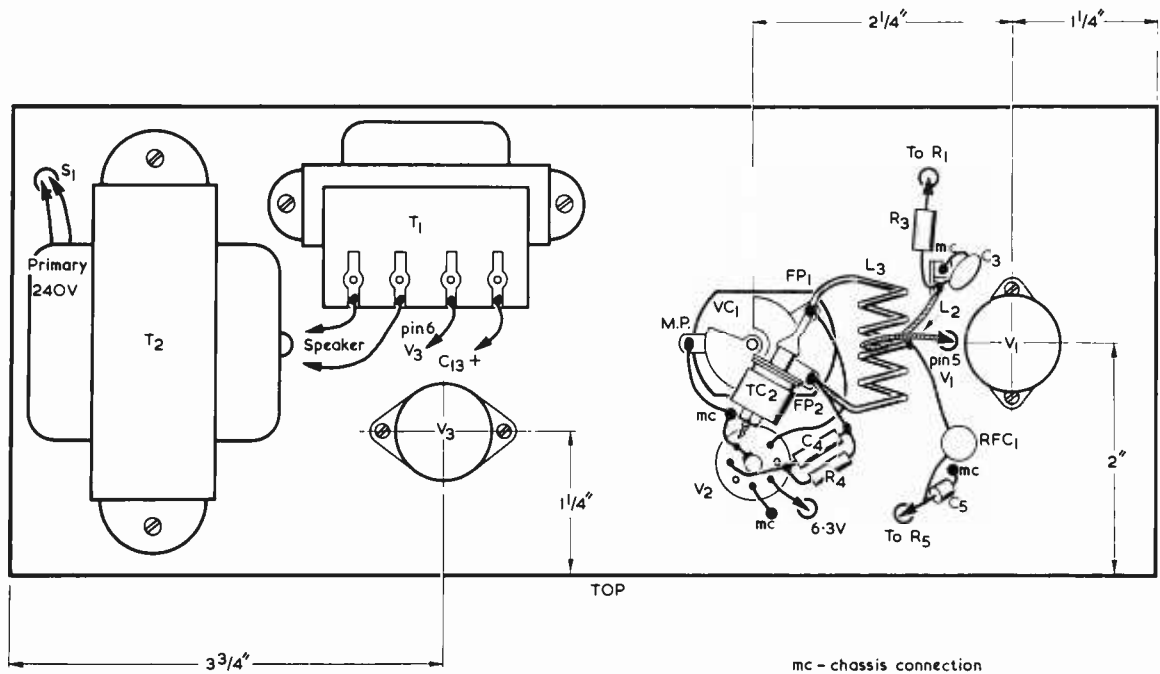

Fig. 2. Wiring and components on the rear of the flanged chassis member
- 1 2-way tagstrip (see Fig. 2)
Coupling coil L2 is a single turn of insulated wire, or of 20 s.w.g. bare tinned copper wire covered with 1mm. sleeving. It has the same diameter as L3, and its ends are shaped to reach tag 5 of V1, (via a hole in the 'chassis') and C3. It is placed centrally in the spaced turns of L3. See the wiring diagram of Fig. 2.
Mount the components shown in Figs. 2 and 3, following these diagrams for correct orientation of the valveholders and of VC1. Two solder tags are fitted at each valveholder for chassis connections. Also, a solder tag is fitted under the upper securing nut for T1, the tag being on the opposite side of the 'chassis' to the transformer. Drill the holes in the 'chassis' that are required for the passage of wires. All these holes should be fitted with grommets. Two holes are required near T2, one of these being for the connections to its primary. A second, larger, hole takes its secondary connections, together with connections to T1. The speaker transformer supplied may have tags positioned differently to those shown in Fig. 2, and this point should be checked before
Carry out the wiring around V2 shown in Fig. 2. TC2 is soldered directly to VC1, between FP1 and FP2. Use 20 s.w.g. or stouter wire in the V2 stage, with all leads, except heater wiring but including those of C4 and R4, as short as possible. Shape the ends of L2 so that one end reaches the insulated tag supporting C3 and R3. The other end passes through a hole immediately adjacent to tag 5 of V1 valveholder.
The 6.3 volt secondary leads from T2 pass through the hole in the 'chassis', as shown, and connect to tag 5 of V3 valveholder and to a chassis tag of the tagstrip. The h.t. secondary leads connect to the same chassis tag and to the negative side of the rectifier. The primary leads of T1 pass through the same hole and connect to tag 6 of V3 and, at the tagstrip, to the positive lead-out of C13. The secondary of T2 connects to a speaker socket strip which is mounted on the adjacent 7 by 4in. side plate. This connection will be made later, when the side plate is secured in position. Note that one side of T1 secondary (it does not matter which) connects to chassis. This connection is made, at the speaker socket strip, to a solder tag under one of the strip securing nuts, and is not shown in Figs. 2 and 3.